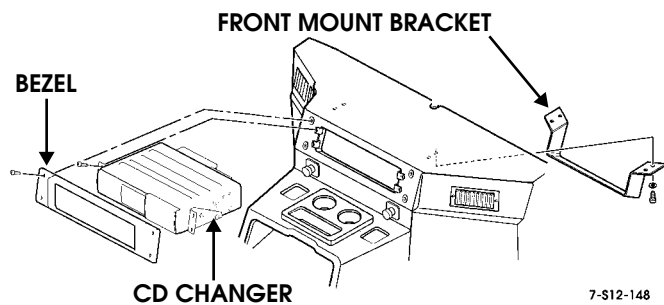

Figure 13-108: CD Changer Installation
1. Remove four screws retaining the CD changer bezel to the console and remove bezel (Figure 13-108).